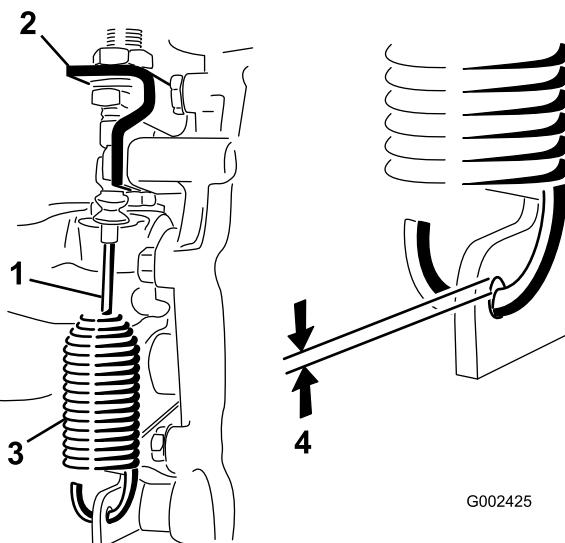

Figure 51
1. Remove the clevis pin securing the High-Low cable to the transaxle (Figure 51).
2. Loosen the jam nuts securing the differential lock cable to the bracket on the transaxle (Figure 51).